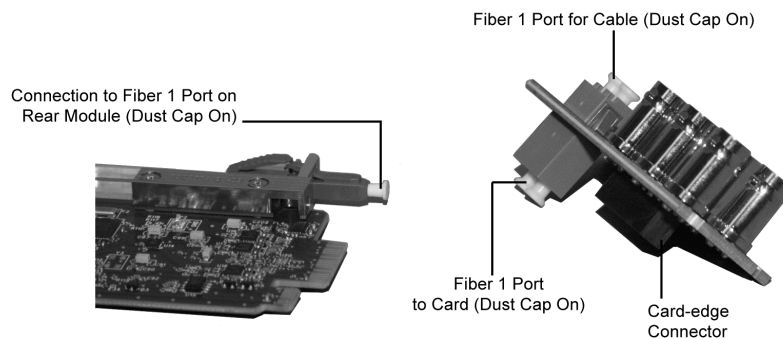
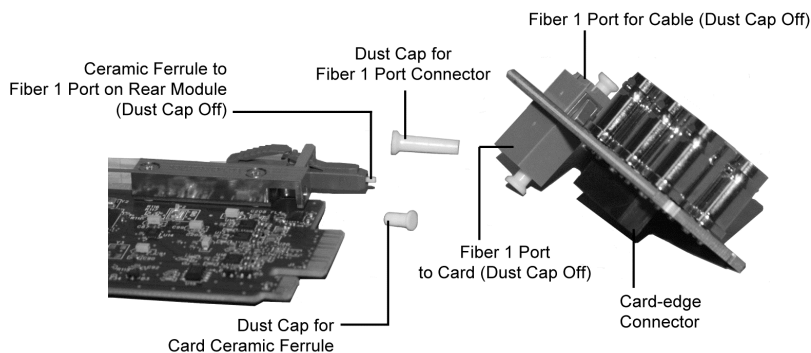
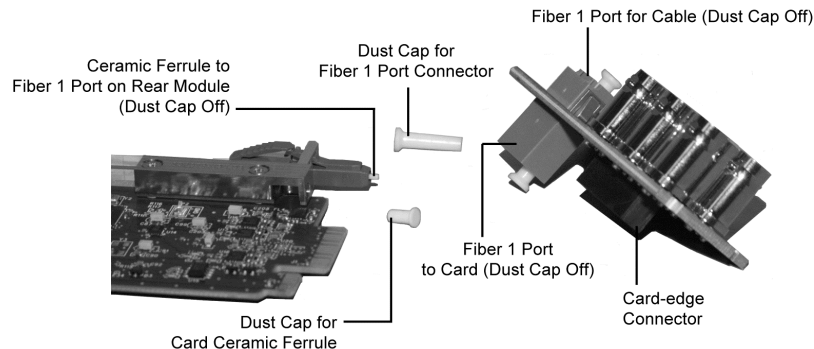

Figure 2.1 Card Connectors with Dust Caps Installed
Figure 2.2 Card Connectors with Dust Caps Removed
Figure 2.3 Card Connectors with Dust Caps Removed
- Connectors must always be inserted into a device or have a dust cap on. Refer to **Figure 2.1** for dust cap locations.
3. Remove the dust cap from the Fiber ports on the Rear Module that faces the interior of the frame. Refer to **Figure 2.1** and **Figure 2.2** for dust cap locations.
- Refer to **Figure 2.1** and **Figure 2.3** for connector location.